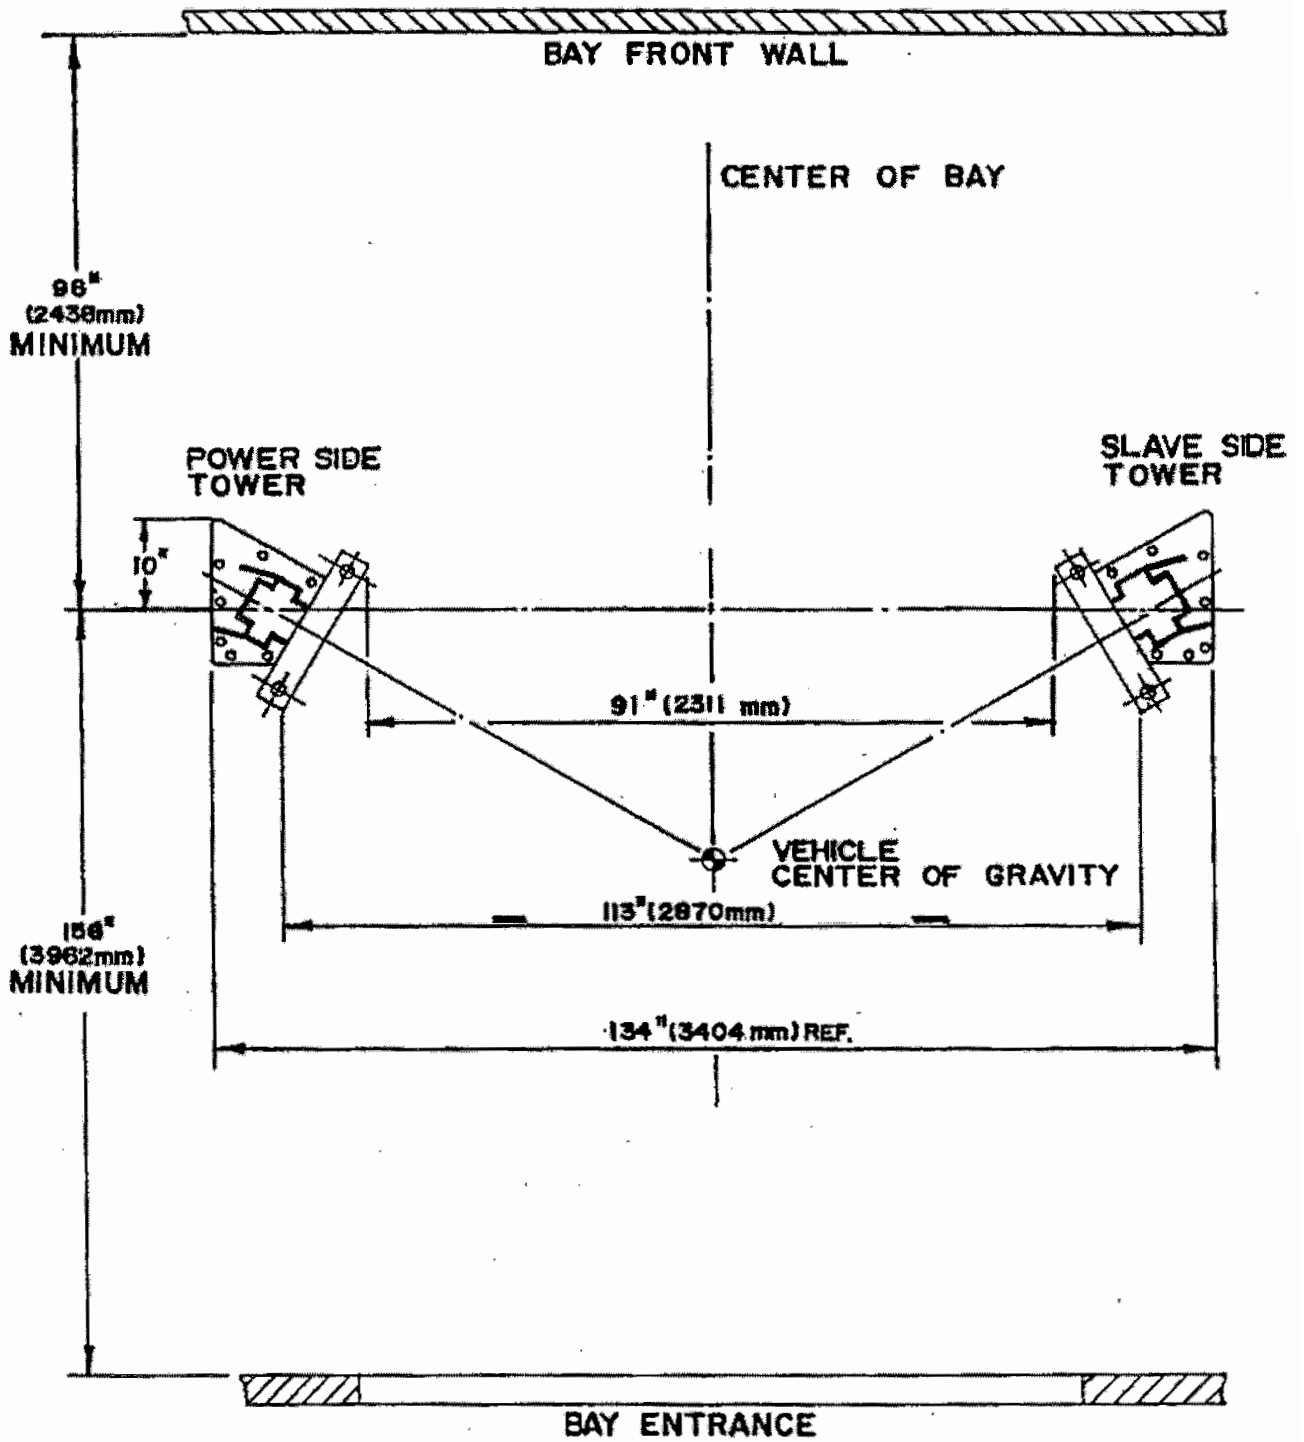

Figure 3 – Bay Layout
7. Prepare the bay by selecting the location of the lift relative to the walls. Clear area of all packaging materials to avoid trip hazards. Draw a chalk line on the floor to represent the center line of the bay and a second chalk line crossing at 90° for locating the lift towers. Refer to **Figures 3**.
1. Locate the power side and slave side tower to the relative position as shown on **Figure 3**. Double check all dimensions.
2. Using a step ladder, install the crossmember. Raise and place the crossmember mounting hooks over the top of the tower. Install and **tighten** the crossmember using four (4) 1/2"-13UNC x 1 1/2"LG. hex head bolts, flat washers, lock washers and hex nuts.
3. Check the towers to make sure they are located, and positioned in the correct location. Refer to **Figure 3**.